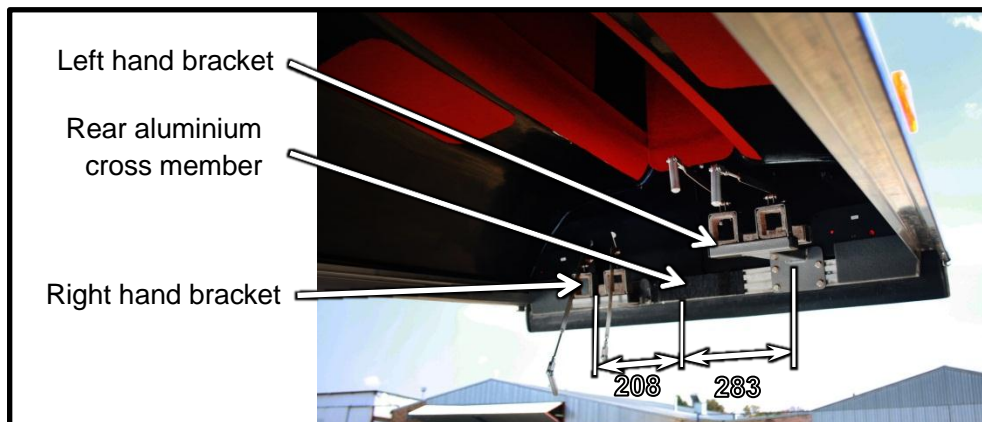

Figure 2
The wing tip brackets will secure the wing tips' roots. See Figure 2.
- 1.2. Bolt the new brackets in the positions as illustrated in Figure 2. (Dimensions in Figure 2 use the centre of the rear cross member as datum.)
3.1. Install the canopy strut 2440mm from the rear aluminium cross member. (see Figure 2).